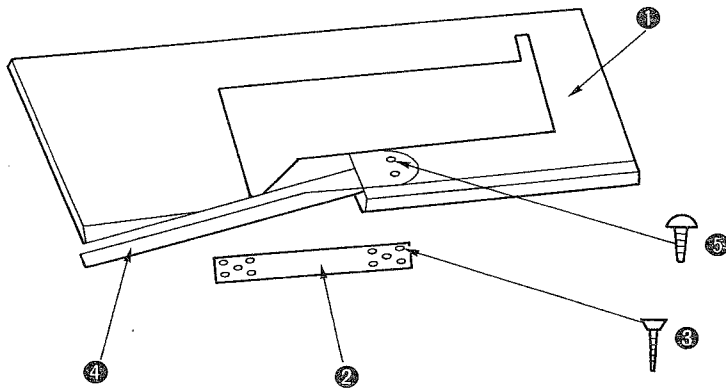

Fig. II-1-1
Fig. II-1-1 Attach exclusive table ① so that this side of the table reaches the notch as illustrated. Attach table reinforcement plate ② so that the notch is aligned with the center and fix it in place using ten screws ③. Fix cloth chip chute ④ in place using two screws ⑤ so that the curved section reaches the notch in the table.